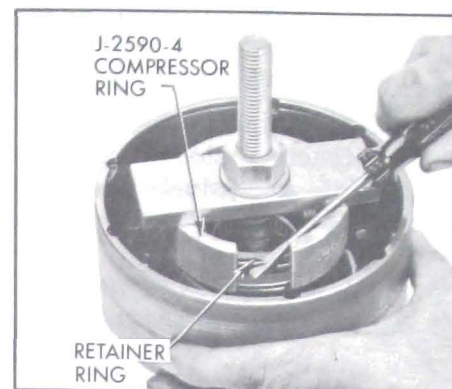

Figure 5-88—Using Clutch Spring Compressor J-2590
3. Install Clutch Spring Compressor J-2590 in assembled drum placing the slot in compressor ring over the ends of spring seat retaining ring. Compress clutch spring sufficiently to remove the retaining ring. See Figure 5-88.
2. Place clutch spring in piston and place spring seat and seat retaining ring on spring. Install Clutch Spring Compressor J-2590-4 (Figure 5-88) and compress spring until the retaining ring can be snapped into the groove in hub of drum, then remove the spring compressor.